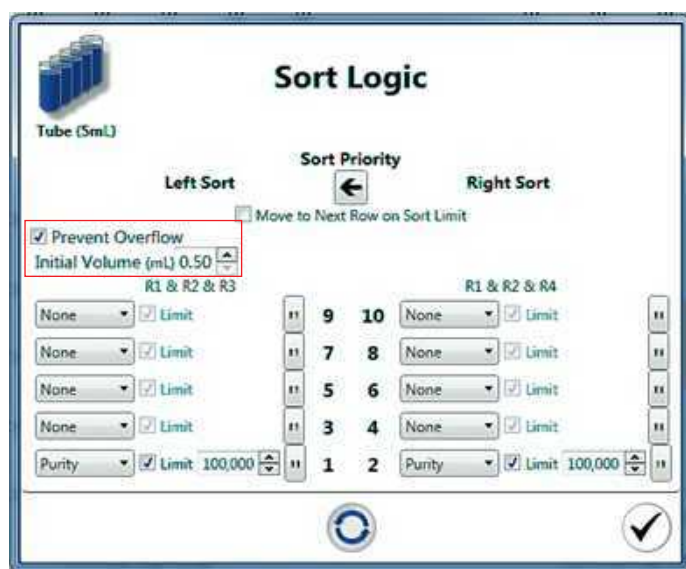

Fig. 72. Sort Logic window with Prevent Overflow highlighted.
1. Click the **Prevent Overflow** checkbox in the Sort Logic window (Figure 72).